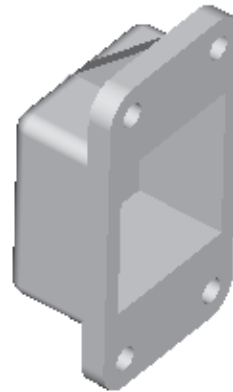

Figure 6-46 Model after creating the cut feature
10. Choose **OK** from the **CUT** dialog box. You can spin the model using the CTRL+middle mouse button. The cut feature is shown in Figure 6-46.
You need to create a mirror copy of the hole as shown in Figure 6-46 and this will be the tenth feature of the model. The hole feature will be mirrored about the **RIGHT** datum plane.